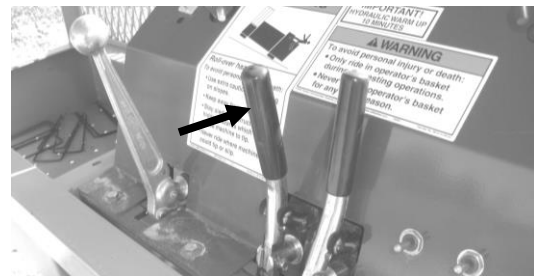
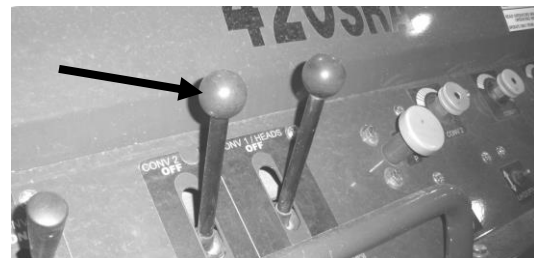

Figure 1—Selector valve for rear conveyor on BR models.
Figure 2—Selector valve for rear conveyor on SR models.
display. See **Figure 1** (BR) or **Figure 2** (SR).